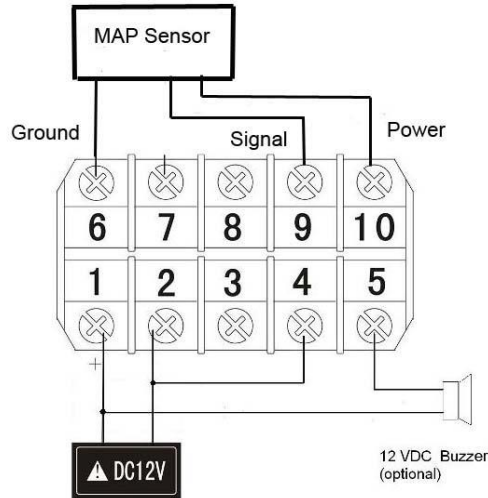

Fig 1. Wiring diagram for SYL-1813 automobile multimeter.
1) Wiring the sensor as shown in Fig 1. Connecting power lead (red) to terminal 10, signal lead (Blue) to terminal 9, and ground lead (black) to terminal 6. The 12V DC buzzer is optional.